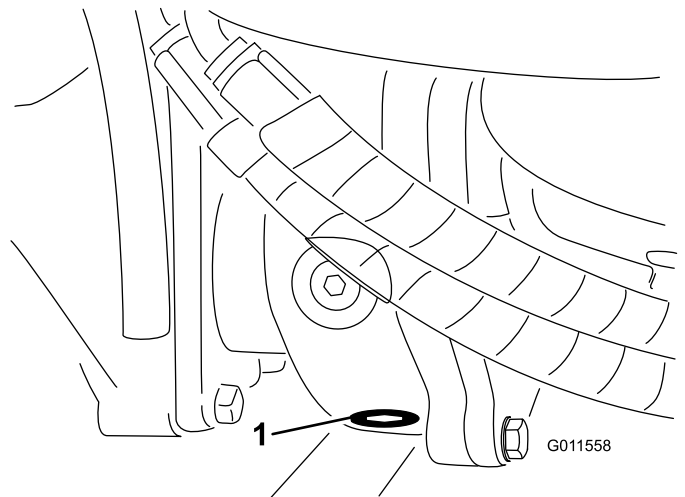

Figure 64
5. Clean the area around the drain plug at the bottom of the gearbox (Figure 64).